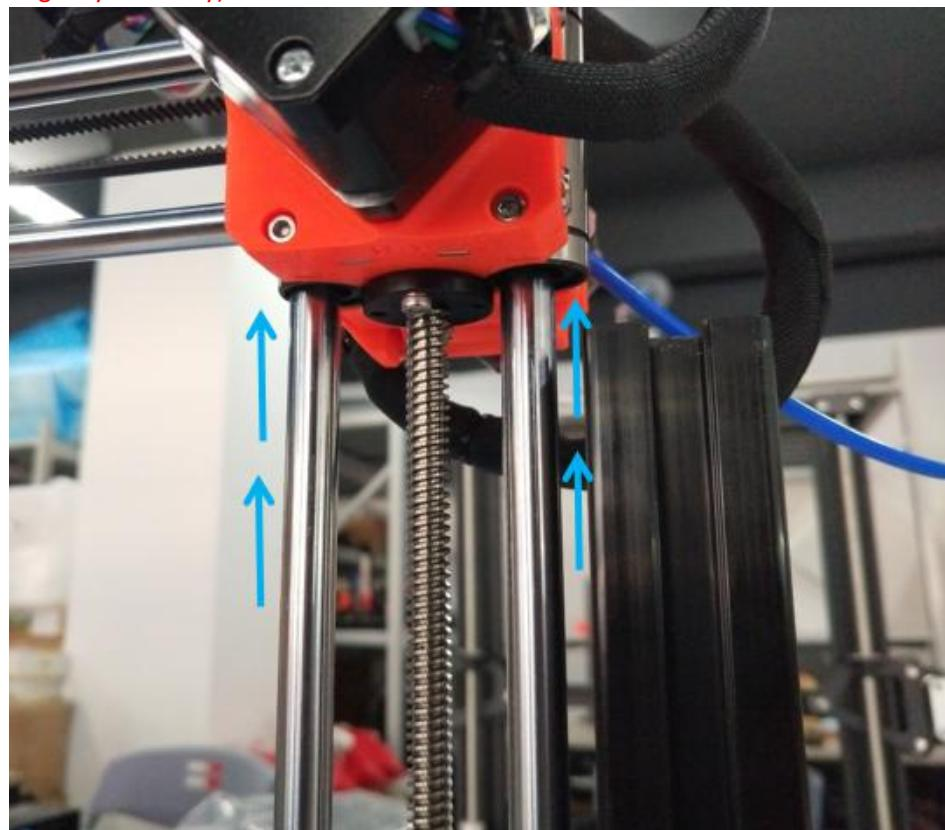

Figure 4.1.3
**Step 4-1-3:** Install the X-axis module installed in the previous step into the Z-axis module as shown in Figure 4.1.3. (Note that the linear bearing on the X-axis module must be gently inserted into the Z-axis module directly vertical the smooth rod, and cannot be leaned, otherwise the balls in the linear bearing may fall easily)